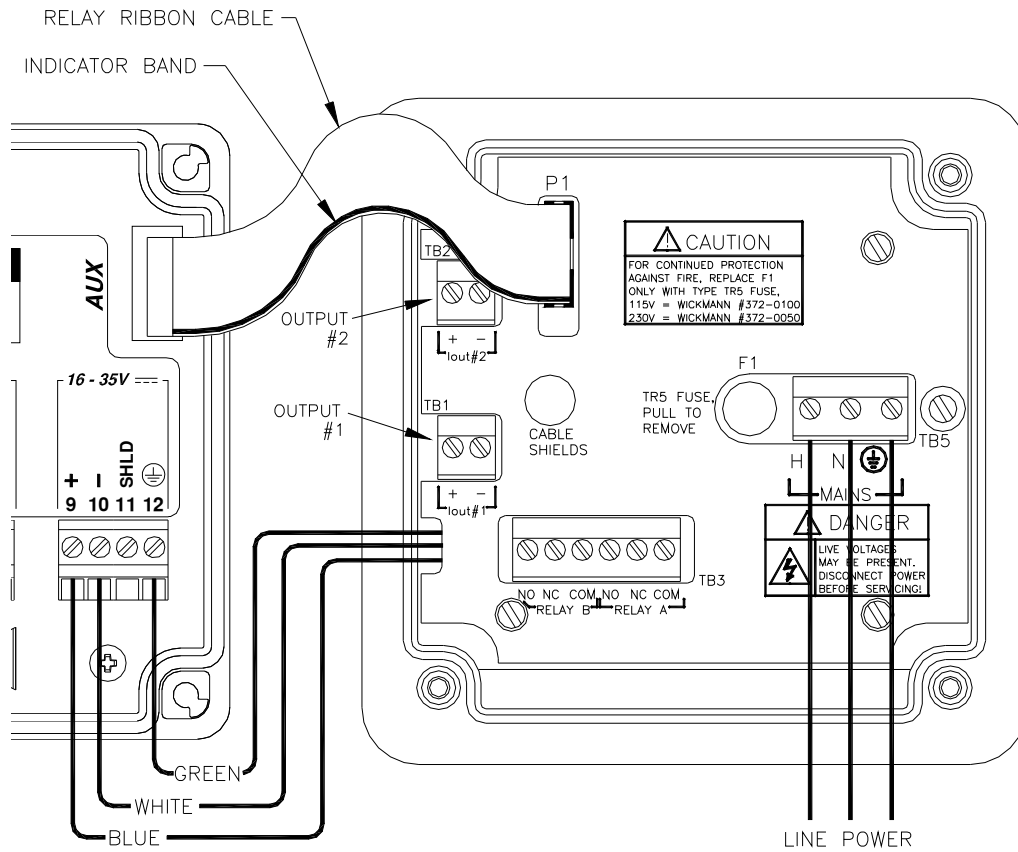

Figure 12 - Line Power Connection
1. Use wiring practices that conform to all national, state and local electrical codes. For proper safety as well as stable measuring performance, it is important that the earth ground connection be made to a solid ground point from terminal 12 (Figure 12). The AC power supply contains a single slo-blo fuse. The fuse is located adjacent to **TB5** and is easily replaceable.
A ribbon cable connects the power supply assembly with the microprocessor assembly located in the front section of the enclosure. This cable can be removed during installation to facilitate wiring if desired. It is best to unplug only one end. The ribbon cable has a marking stripe on one edge that is used to indicate proper orientation. The indicator stripe should be on the bottom edge of the cable when installed as shown in Figure 12.